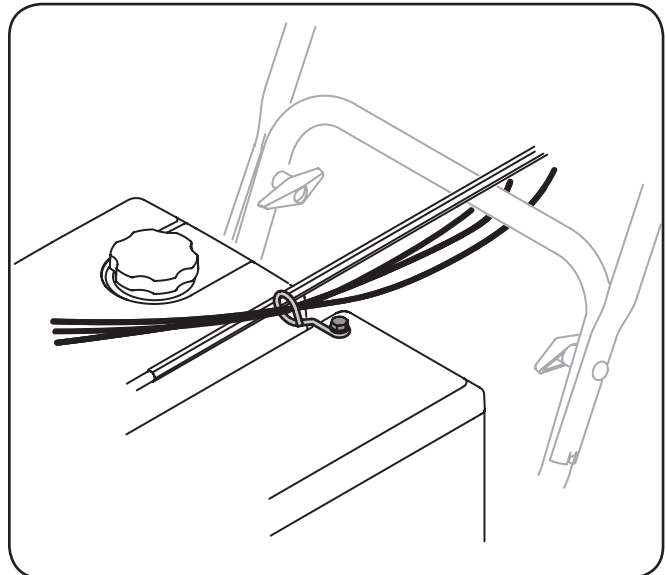

**Figure 3-9**
7. Push the chute control rod toward the control panel until the hole in the rod lines up with the hole in the chute control input closest to the chute control head and insert the hairpin clip removed earlier. See Figure 3-9.